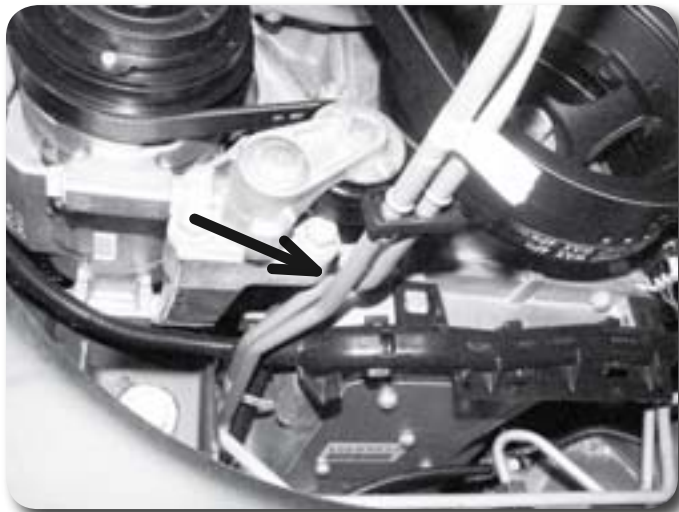

Figure 19
38. Check the transmission cooler lines that run from the front of the vehicle to the passenger's side of the oil pan to be sure they are not rubbing on any components **Figure 19**. If clearance is needed, carefully bend the hardlines up near the point where they attach to the rubber section (near the radiator). Make only small bends by hand, it doesn't take much of a bend to gain adequate clearance.